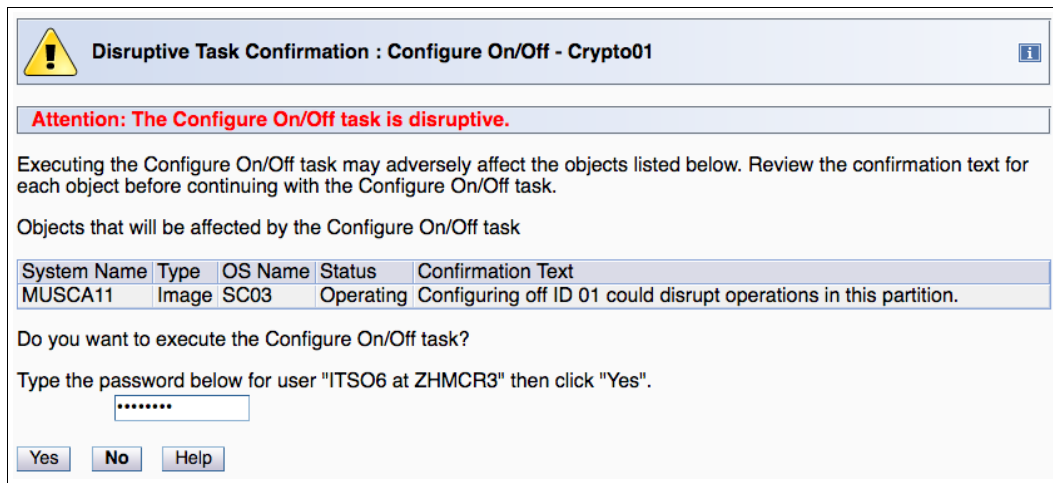

Figure 10-30 Configure On/Off (Online to Standby): Confirmation
4. Because taking a cryptographic coprocessor offline can be disruptive to your application, a confirmation is required. The task must be confirmed by keying in the user password (Figure 10-30).